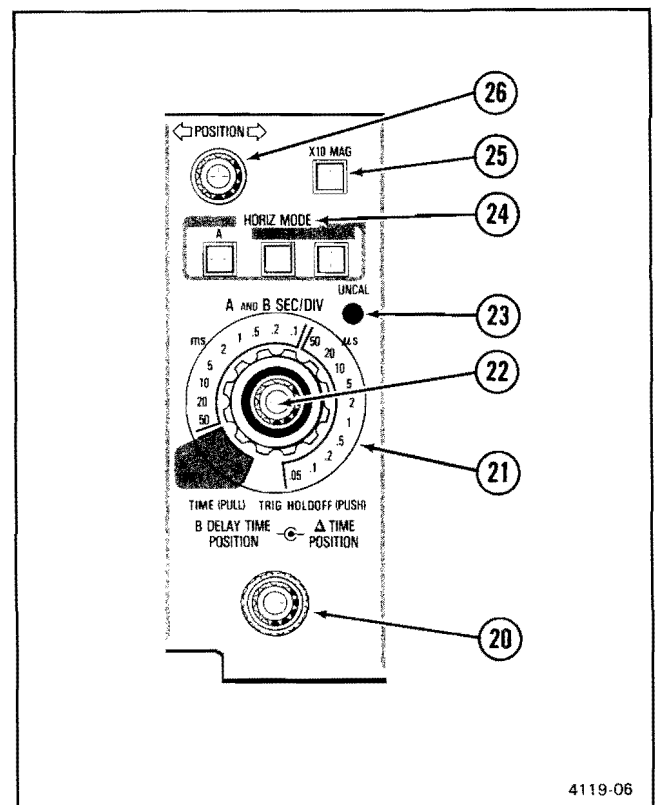

Figure 2-5. Horizontal controls and indicator.
Refer to Figure 2-5 for location of items 20 through 26.